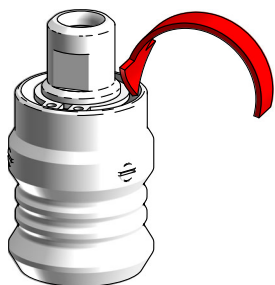

Fig. 29: Dripping solvent into the coupling
- If the sleeve of the coupling is jammed, you can try to carefully drip a very small amount of Ethanol or Isopropanol between the sleeve and the rest of the coupling (see Fig. 29). Don't apply the solvent anywhere else. Don't use any other solvents; some models of the coupling have an NBR O-ring inside that might get damaged. Then move the sleeve up and down until it runs smoothly. Dry the coupling with a lint-free cloth.